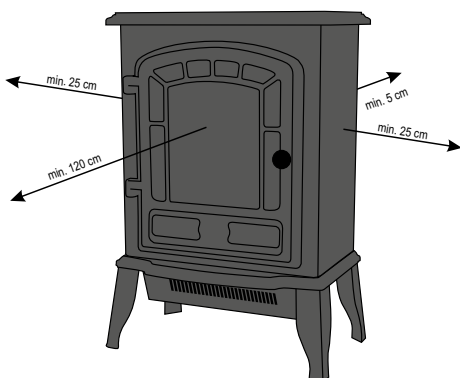

Figure 2 • 2. ábra • 2. obrázek • fig. 2. • 2. skica • 2. obrázek • Slika 2.
2. Never locate the unit directly in corners and observe the minimum locating distances indicated in Figure 2. Always observe the health and safety regulations valid in the country of use.
3. The appliance should be set on a firm, horizontal surface. Free circulation of warm air must be ensured, take into account the minimum placement distances shown on Figure 2. Make sure that the cold air inlets on the back side are not covered with any kind of material. It is forbidden to stand it on flammable materials, e.g. carpet, because the device blows out warm air at its bottom.